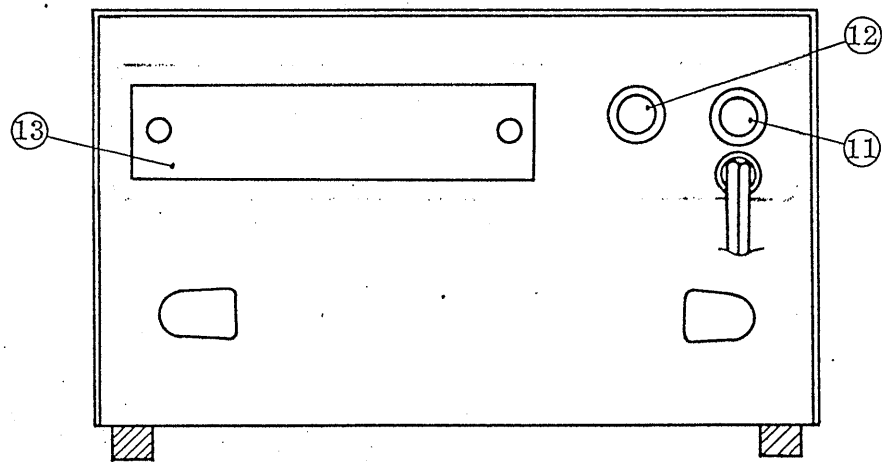

Fig. 2 Rear Panel
3.2 Explanation of rear panel (See Fig. 2.)